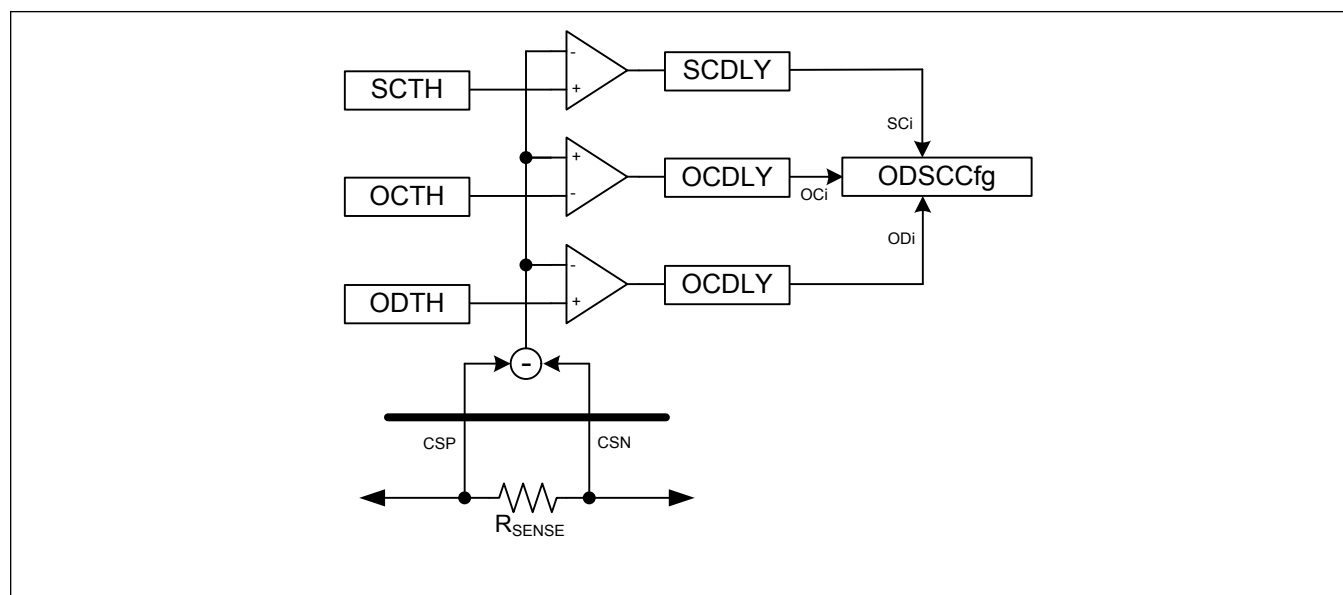

Figure 7. Overcurrent Comparator Diagram
The IC contains three fast overcurrent comparators called Overdischarge (OD), Short-Circuit (SC), and Overcharge (OC) that allow control protection. These comparators have programmable threshold levels and programmable debounced delays. See Figure 7.